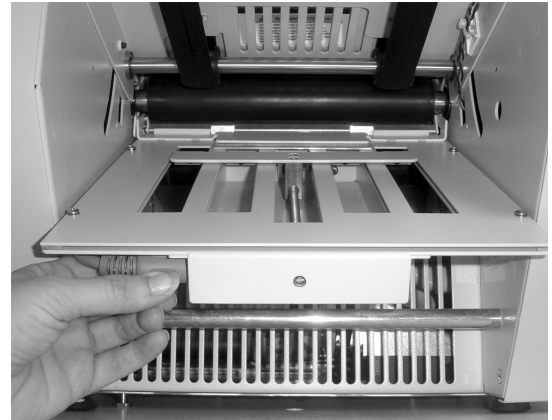

Fig. 4b
3. Plug the cord into the fold plate receptacle (Fig. 4b).